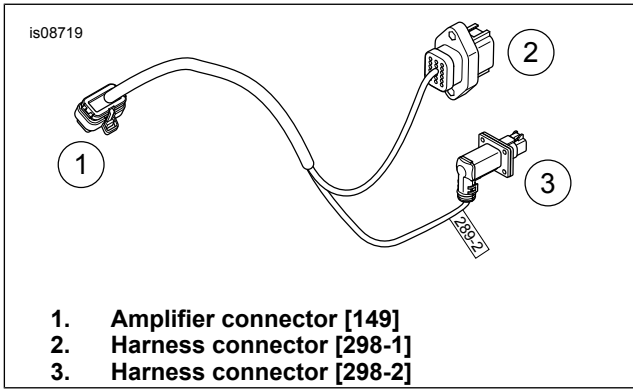

Figure 11. Wire Harness, Amplifier to Lower Speaker Connector Installation
1. See Figure 11. Plug in connector (1) [149] of the saddlebag harness to the top of the amplifier. Route the saddlebag side harness inside the left saddlebag. Clean the inside bottom and side surfaces of the saddlebag along the harness path with a 50-50 mixture of isopropyl alcohol and distilled water. Secure with cable straps and bases as shown.